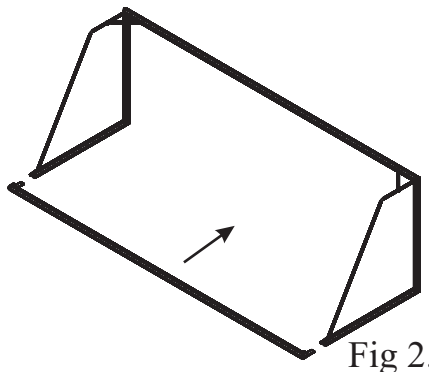
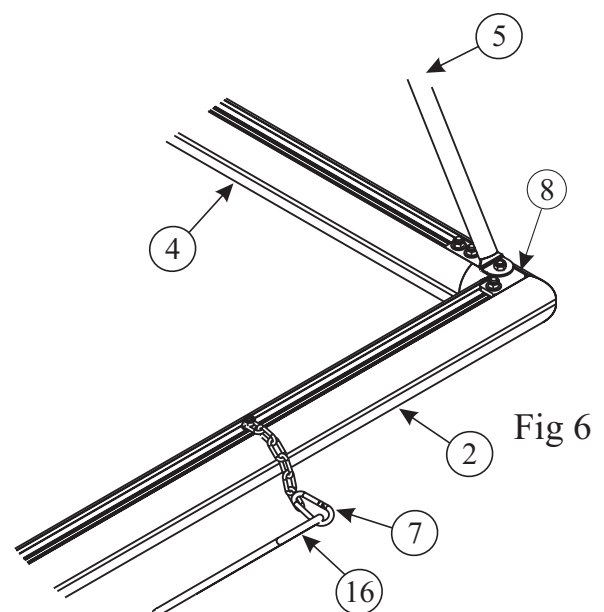

Fig 2.3
Fig 6
5 Backbar - Place the backbar behind the goal, with the slots facing upwards. Then slide 3 square headed bolts into the slots at both ends of the backbar, and 2 square head bolts into the ends of the sidebars. Slide the backbar onto sidebars as shown in Fig. 2.3. Place the Corner Plate (8) over the bolts and attach the net support to the first bolt. Secure with washers and bolts. As shown in Fig. 6.